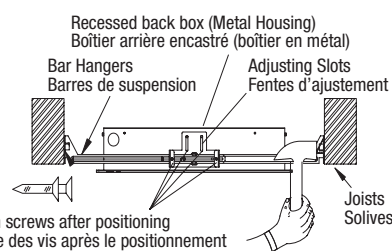

Fig. 8g
6. Position the metal housing and the bar hangers between joists. Make sure that the bar hangers are oriented in the correct position. Position the metal housing temporarily by hammering "nail-in", tabs on bar hangers, then secure permanently with nails. Bar hangers should be level with bottom of joists (Fig. 8g).
7. Adjust height of recessed kits vertically using adjusting slots and then tightening all screws on adjusting slots and bar hanger bracket to secure adjusting bracket and bar hangers (Fig. 8g).
7. Ajuster la hauteur du boîtier en métal à la verticale à l'aide des fentes d'ajustement et serrer toutes les vis sur celles-ci et la ferrure des barres de suspension afin de fixer solidement la ferrure d'ajustement et la barre de suspension (Fig. 8g).